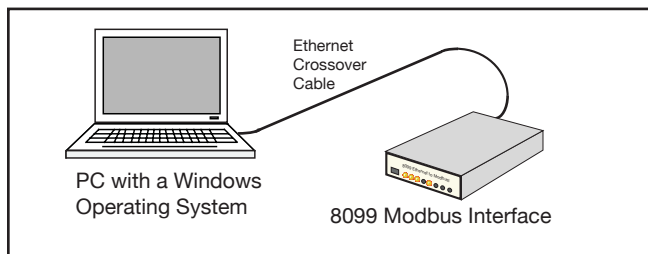

Figure 2-8 8099 Connected to computer with a Crossover Cable
1. Use the Crossover Cable to connect the 8099 directly to the computer running the browser as shown in Figure 2-8.